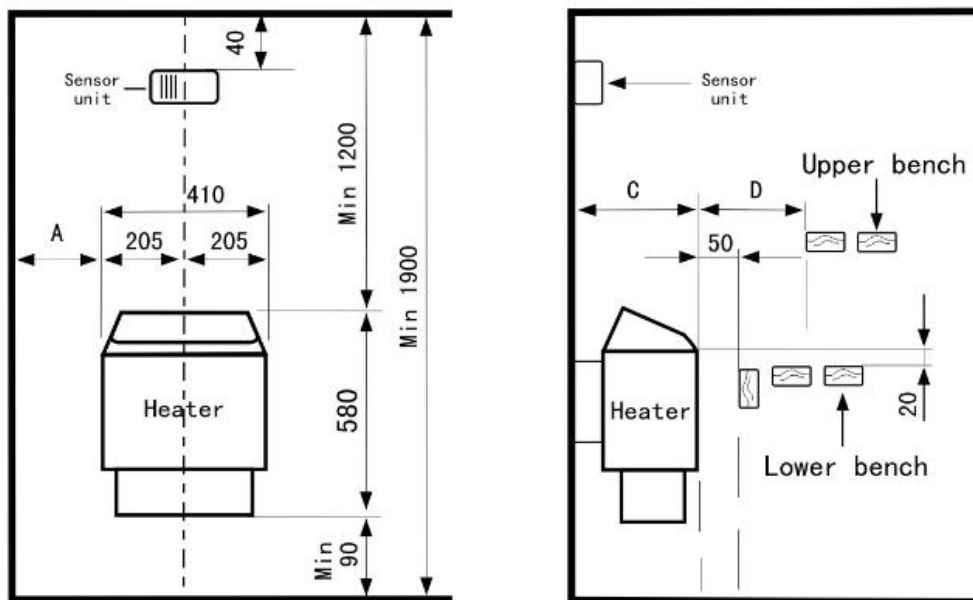

Fig3
Temperature sensor and sauna heater must be installed strictly according to the following diagrams. (See Fig3 and Fig4)
2. Fasten the circuit board with bolt to the wall straight over sauna heater. Check diagram for minimum distance (See fig3).
The control panel is splash-proof and can be installed in a dry place near sauna room. The temperature sensor unit must be installed to the wall inside the sauna room. Please follow the minimum safety distance of sauna heater during installation (See fig3), which is included in installation diagram. Failure to follow these may cause a burn to the wooden wall.